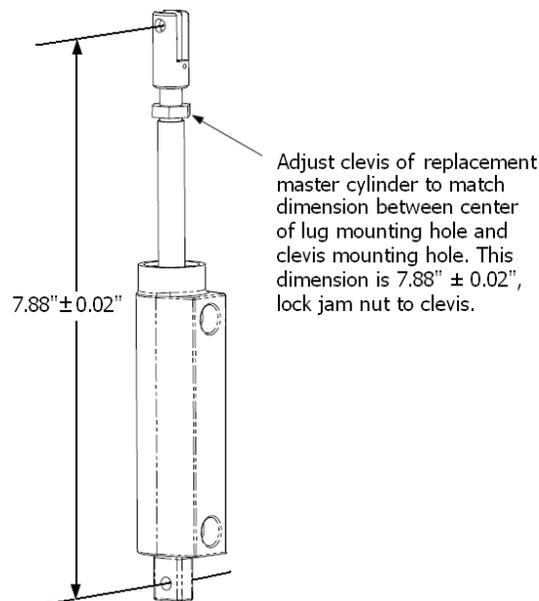

Figure 32-26 Master Cylinder Clevis Adjustment
2. Adjust clevis of replacement master cylinder to match dimension between center of lug mounting hole and clevis mounting hole. This dimension is 7.88" ± 0.02", lock jam nut to clevis. See Figure 32-26 for details on adjusting the replacement master cylinder.